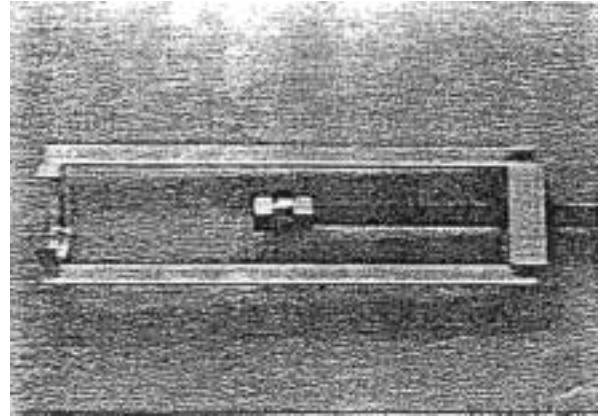

Figure 2: The headset tool with fork pusher installed.
- B) 3. Installing the non-drive side bearing onto the spindle: First, you should know what the non-drive side setting should be (the measurement from the end of the spindle to the outer edge of the bottom bracket shell). Install the driver nut all the way on the main screw followed by the thrust bearing and spacer (H). Place a thin coat of RC 680 Loctite on the I.D. of the bearing. Also coat the spindle where the bearing will seat. Slide the bearing onto the spindle. Thread the main screw into the spindle until snug. Rotate the driver nut and push the bearing onto the spindle to the proper setting (see Fig. 2).
- A) 2. Screw the threaded rod into the cage assembly. Thread the drilled nut onto the threaded rod and secure with the hitch pin at the upper hold position. Slide the fork pusher (part C) onto the threaded rod so that the smaller diameter side faces away from the lock-nut. Screw the second nut on loosely to hold into place (see Fig. 2).